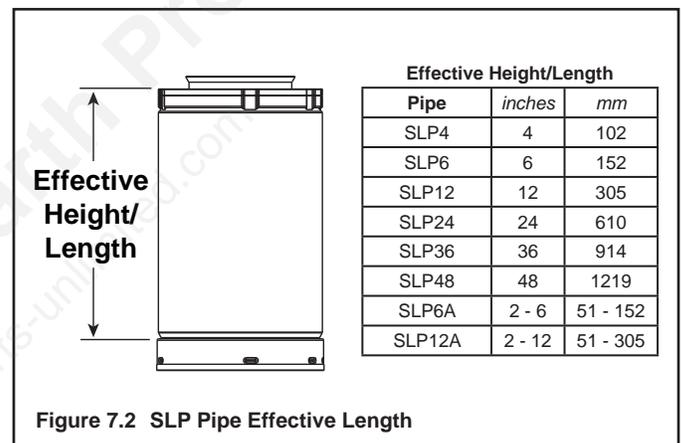

Figure 7.2 SLP Pipe Effective Length
- Pipe measurements are shown using the effective length of pipe (see Figure 7.2).